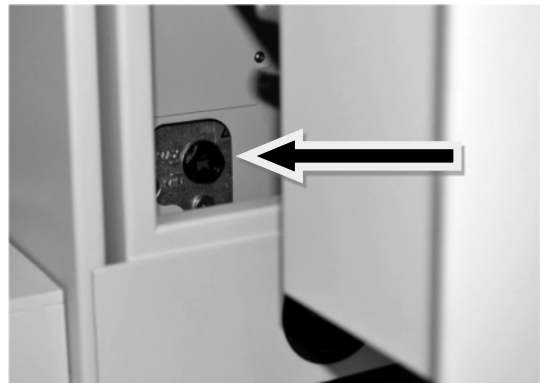

Fig. 91
2. Looking under the bin with the help of a torch, check the level of the oil (Fig. 91).